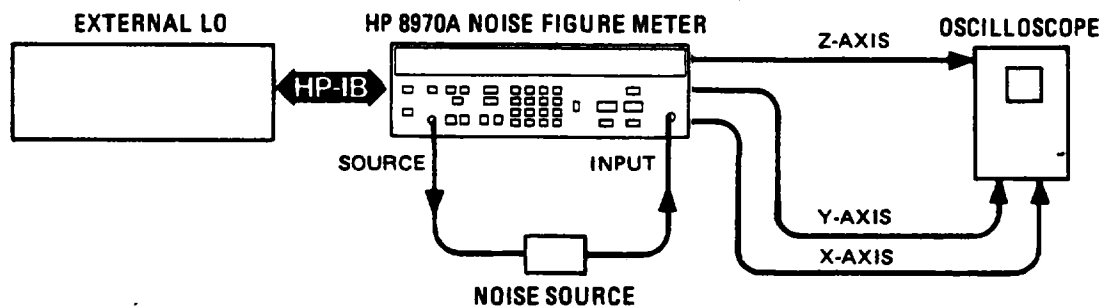

Figure 3-8. Basic Functional Checks Setup
3. Connect the noise source between the Noise Figure Meter's SOURCE and INPUT (See Figure 3-8). Verify the NOISE FIGURE display shows approximately 5 dB.
28. Connect the HP-IB cable between the Noise Figure Meter and the external LO (see Figure 3-8).